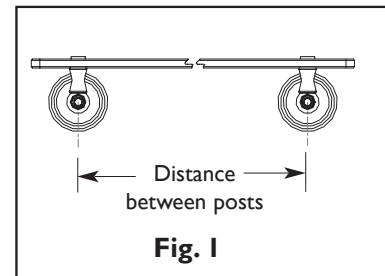

Fig. 1
1. Using the table below, measure the appropriate distance between post centers. (See Fig. 1)